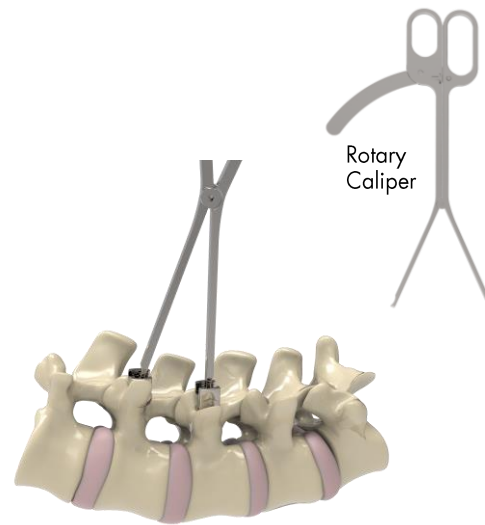

Figure 12
- a. Once all Screws and Hooks have been inserted, the appropriate Straight Rod or Curved Rod may be applied. A Flexible Rod Template (39-RD-0012) or Rotary Caliper (39-CC-0405) may be used to measure the appropriate length Rod. (Figure 12)